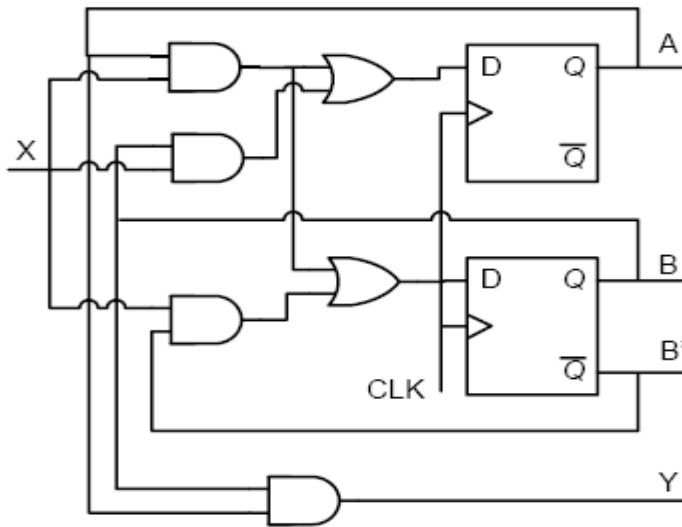

Figure 2: Implementation using D Flip-flops.
Design a sequential circuit using JK flip-flops whose state diagram is shown in Figure 2 below. Designate the two flip-flops as A and B, the input as X, and the output as Y.
2. Apply clock pulses to the circuit by pushing the pulser-button and verify the state transition and output as shown in Figure 2 above.